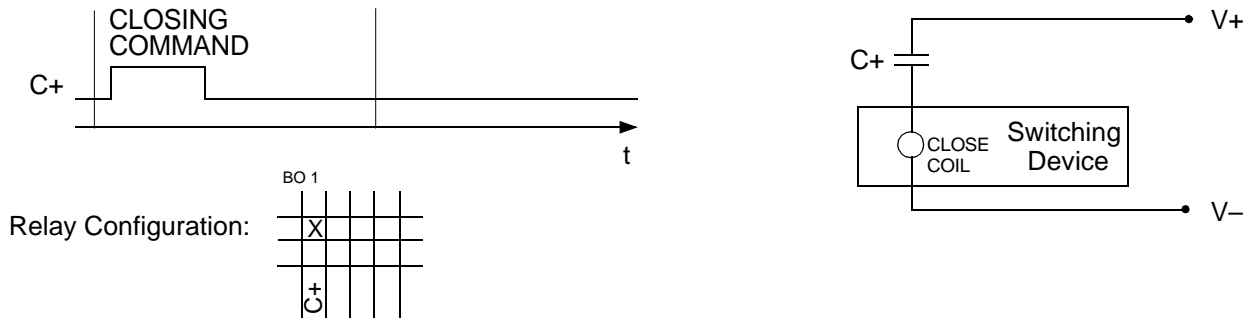

Figure 5-4 Single Command with Single Output
- For each device to be controlled, determine if switching is to be done with 1 contact, $1\frac{1}{2}$ contacts (single contact and common), or 2 contacts; with a single or double command; and with or without feedback signals. See Table 5-1 and Figures 5-4 to 5-12. The information to be processed and the command type are determined with these decisions.
- The TRIP (OFF)–command is always configured prior to the associated CLOSE (ON)–command;
Table 5-1 shows the most important command types. They are made available as options in the Configuration Matrix for the SIPROTEC[®] device (see also “Binary Outputs for Switching Devices” in Sub-section 5.2.4). All double commands, with and without feedback indications, are also available as transformer step commands. The following Figures 5-4 through 5-12 show time diagrams, control settings, and the sequence of relay positioning in the configuration matrix for frequently used command types.
For Figures 5-4 through 5-12, the following abbreviations apply: